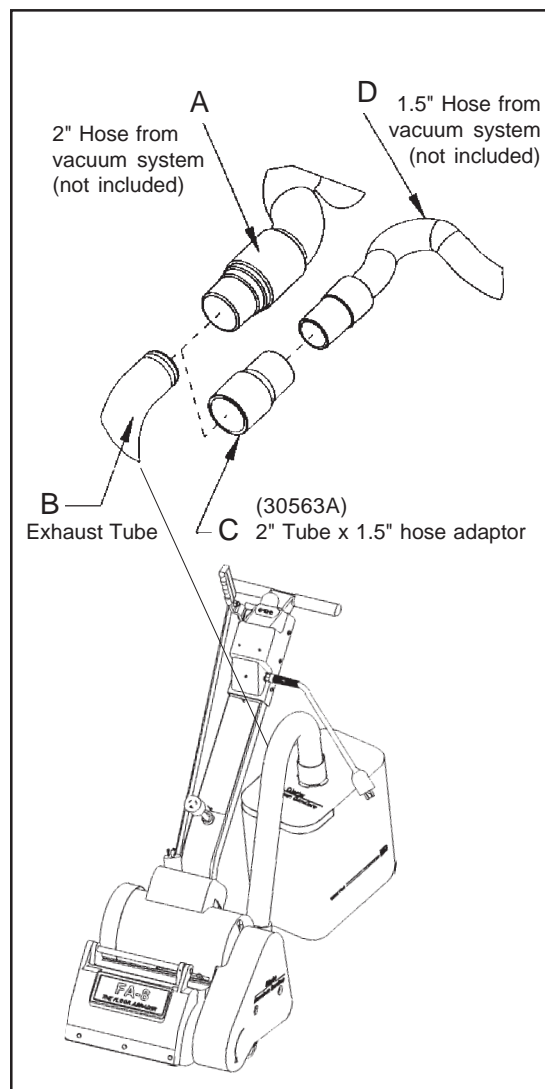

Figure 2
1. Install 2" hose end (figure 2, A) directly over the exhaust tube (figure 2, B).
1. Install the 2" x 1 ½" hose end adaptor (Part No. 30563A) (figure 2, C) over the exhaust tube (figure 2, B).
2. Insert 1 ½" hose end (figure 2, D) into the adaptor (figure 2, C).